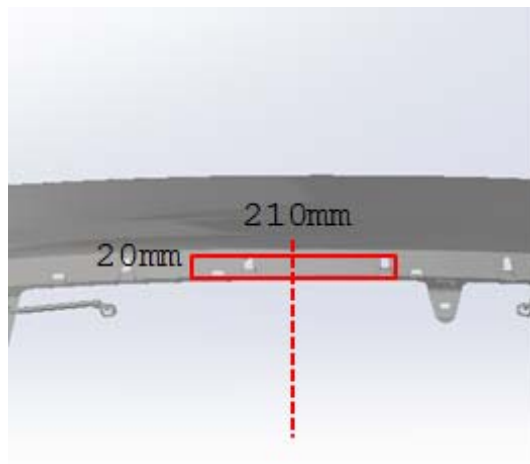

figure 1.
19. On the exposed bottom edge of the main bumper, locate the centre vertical. Make a cut 20mm upward and 210mm across (105mm either side of the centre vertical). As show on figure 1.